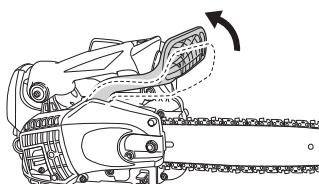

Fig. 15
- Pull the chain brake (18) toward the front handle to check that the brake is disengaged. (**Fig. 15**)
9. Make sure chain brake is disengaged. (Fig. 15)